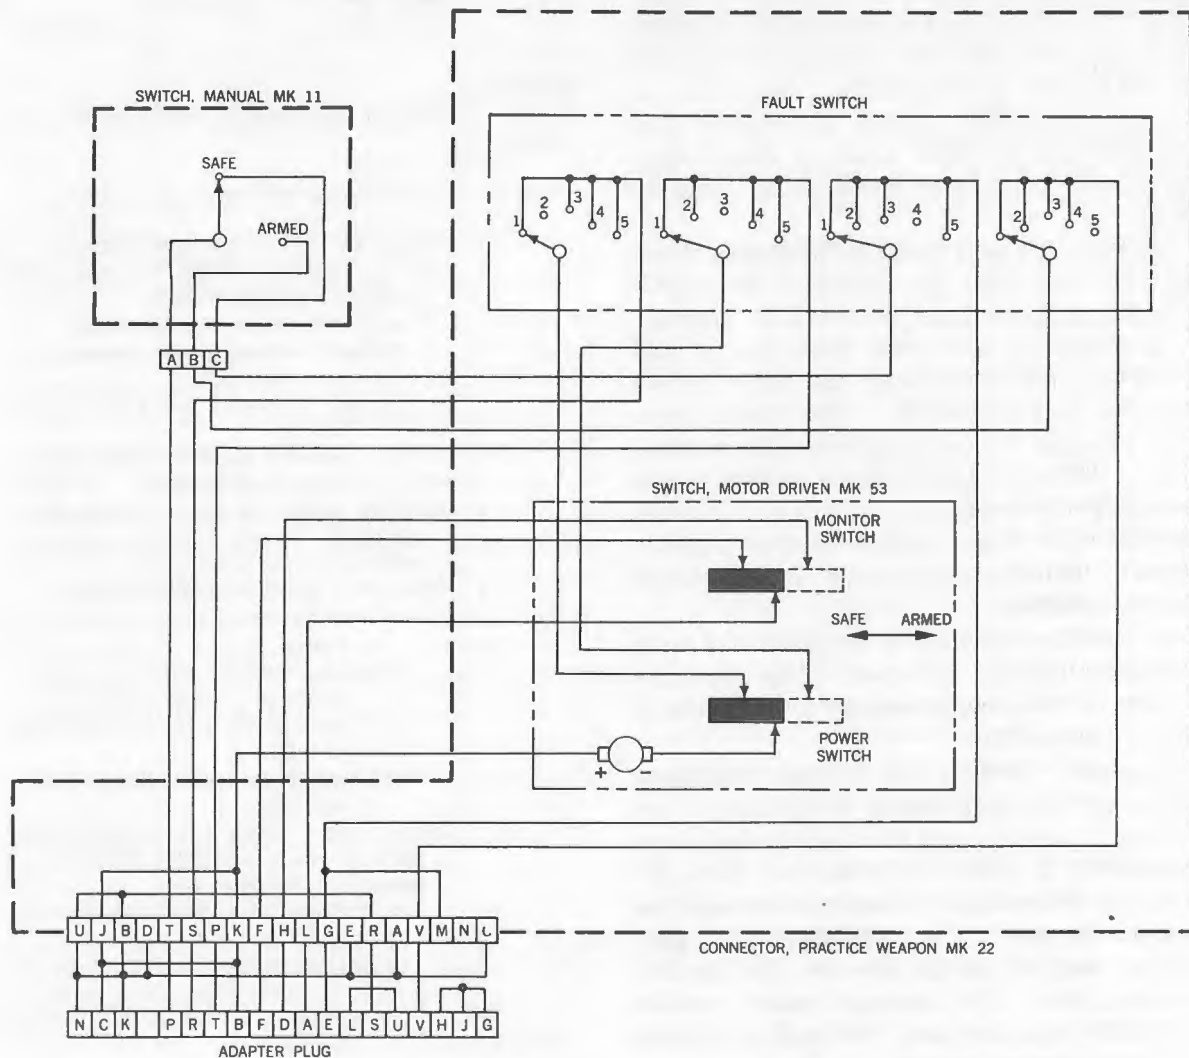

Figure 11-59.—Schematic Wiring Diagram Practice Depth Bomb Mk 102 Mod 0.
The practice bomb simulates the manual switch, the MC-725 switch, the series monitor circuit, and the pressure monitor switch circuit of the service bomb. The practice bomb also incorporates a fault switch that can simulate various faults which might appear in the service bomb. Operation of the practice bomb consists of applying voltage to its circuits and operating its switches in conjunction with either a monitor test set or an aircraft control box. A schematic wiring diagram of the practice bomb appears in figure 11-59. In this section, all the pins referred to are on the weapon connector receptacle.
**ARMING THE SWITCH.** To move the switch to the ARMED position voltage is applied to the motor circuit through pin K or J. Since a ground on pin S is applied to the motor through the fault switch and the power contacts of the motor-driven switch, the motor operates and drives the switch toward the ARMED position indicated by the dotted lines in figure 11-59. After four to seven seconds of operation the power contacts open and the ground is removed from the motor. The motor stops and the switch remains in the ARMED position.